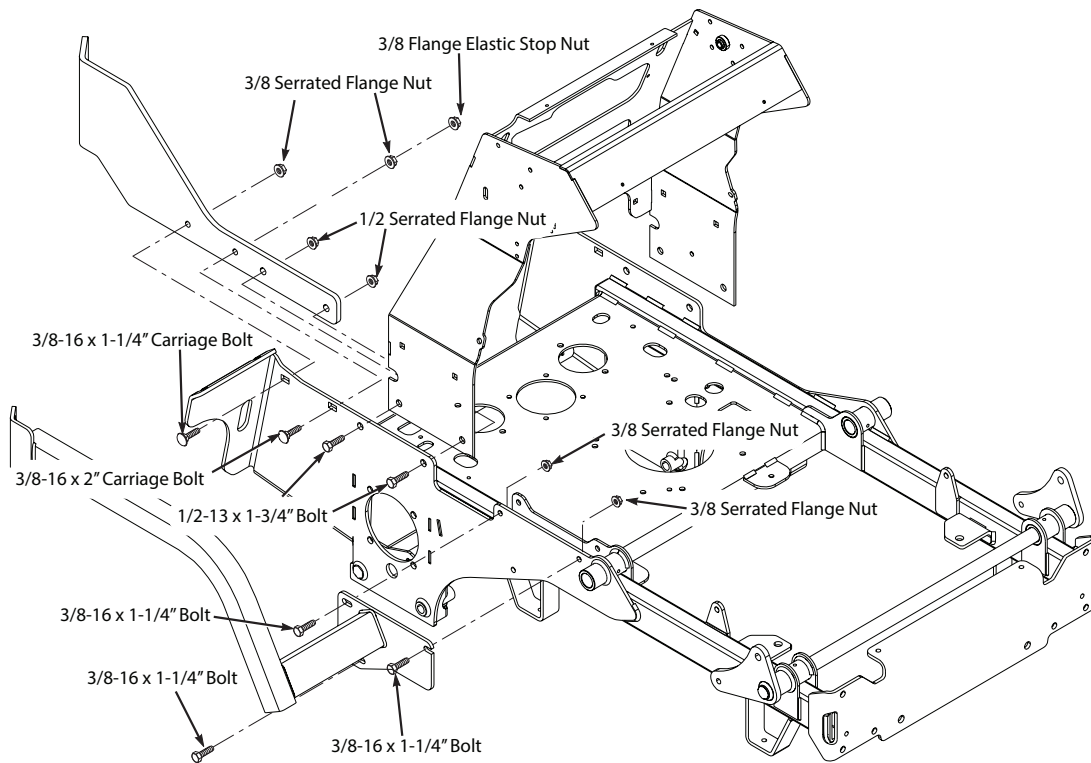

Figure 2-9. Mounting Weldment Assembly
14. With help from an assistant, install the grass catcher mounting weldment assembly. See Figure 2-9 and 2-10.